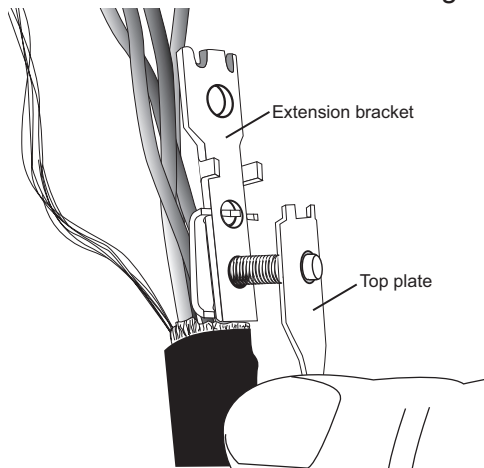

Figure 7
Step 2: Attach the extension bracket, then the top plate (Figure 7). Tap the top plate to set the teeth into the cable.